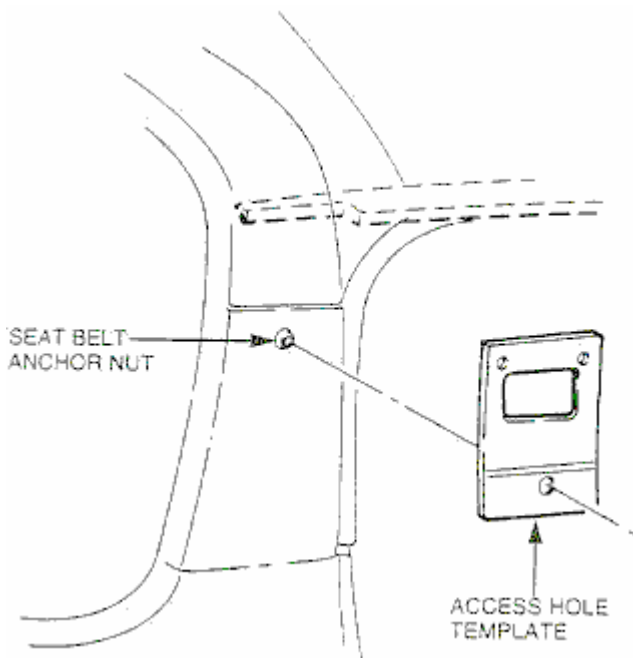

FIGURE 1A
11. Use the template which locates off the seat belt anchor in the B-pillar and the scribed line to orient the template. Then mark the rectangular hole using a grease pencil (refer to Figures 1A and 1B). Center punch hole location for 1/4" hole using template.